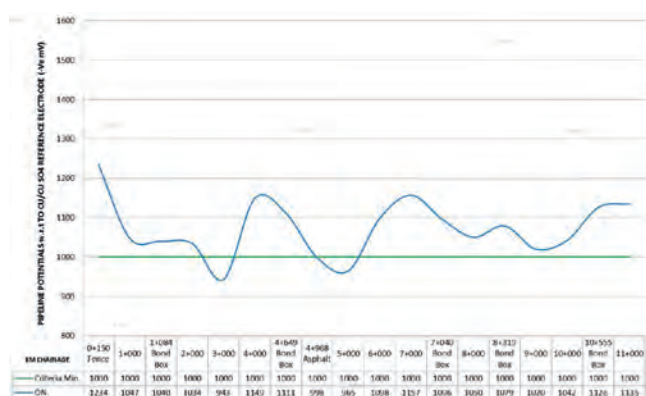

Figure 3. Sample of ON potential (PL-5).
The permanent ICCP system was designed to achieve the proper protection criteria based on company and international standards and transformer rectifier (TR) is rated for 100 V/100 Amps DC.^{7,8,9} The amount of CP current required was limited to protect the pipelines and achieve the optimum level of polarisation based on the accepted criteria. Commissioning for the CP system was attempted at the end of 2016. According to a preliminary CP commissioning report, ON measured PSP does not meet the commissioning criteria (CP commissioning criteria is CP ON potential shall be more negative than -1000 mV and less negative than or equal to -2500 mV) and was prone to commissioning failure. Figure 3 illustrates a sample of the PL-5 ON measured PSP.